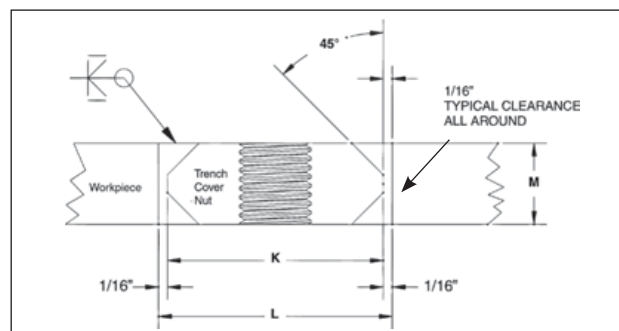

Figure 5
3. Insert the trench cover nut into the hole. The trench cover nut should have 1/16" clearance around its outer edge. The surface of the trench cover nut must be parallel and even with the surface of the workpiece (See Figure 5).